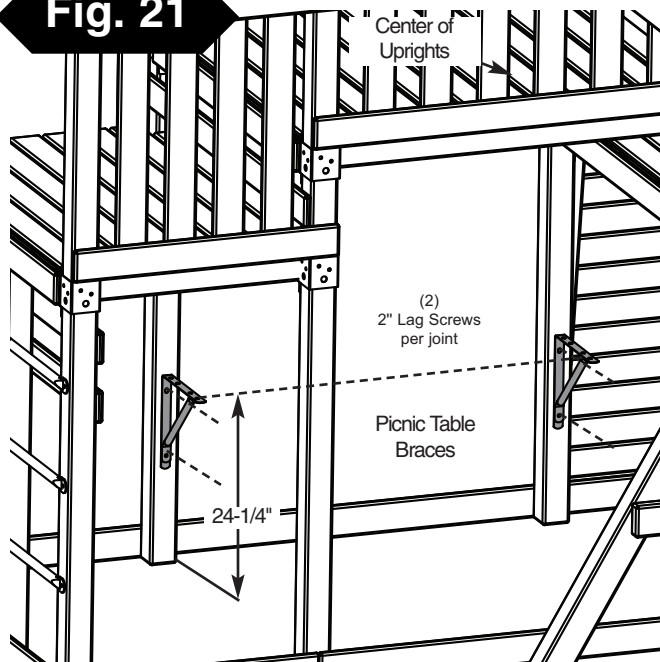

Fig. 21a
2. Align 1" x 6" boards as shown in **(Fig. 21a)**.